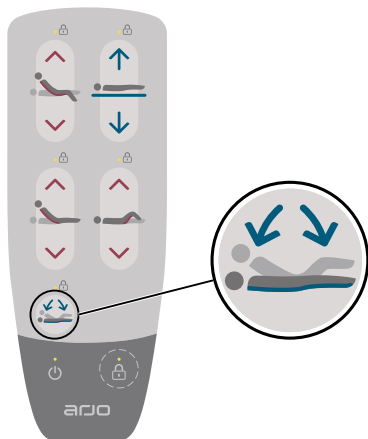

Figure 74
2. Press and hold the Flat and programmed height button on the hand control. See Figure 74.